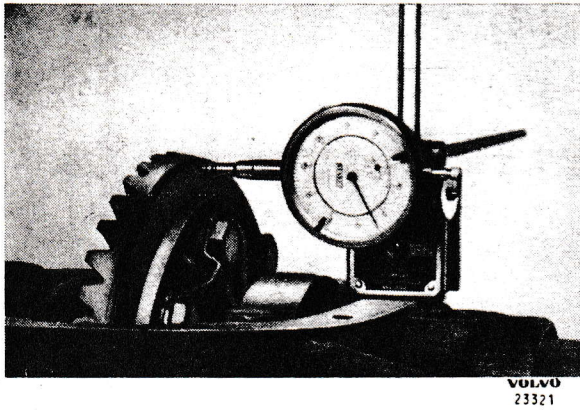

Fig. 27. Measuring the ring gear runout.
12. Fit the caps (2) with bolts and tighten the bolts to a torque of 5.5—7 kgm (40—50 lb.ft.). Fit an indicator against the reverse side of the ring gear, Fig. 27. Rotate the ring gear and measure its runout. This should not exceed 0.08 mm (0.003").